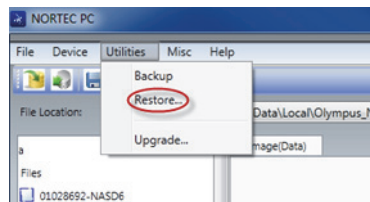

Figure 6-33 The Restore command
3. On the NORTEC PC software **Utilities** menu, select **Restore** (see Figure 6-33 on page 332).